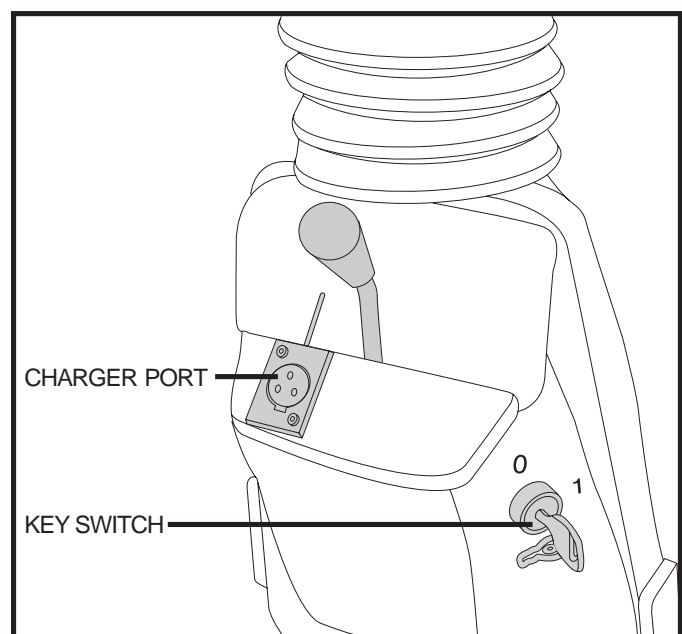

Figure 6. Lower Tiller Components
- Insert the key into the key switch and turn it clockwise to power up (turn on) your PMV — (1) indicates the on position. See figure 6.
- Turn the key counterclockwise to power down (turn off) your PMV — (0) indicates the off position.